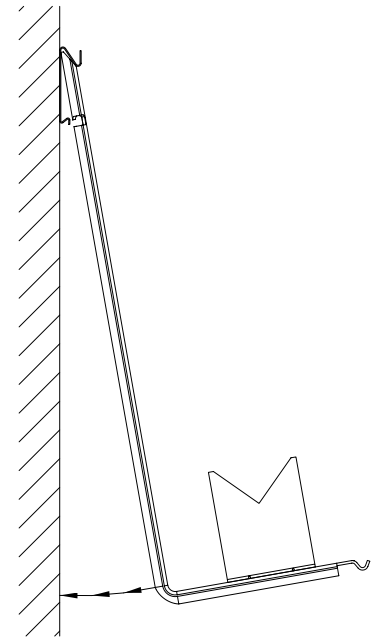

FIGURE W-3
- (3) Slip the snap expansion bracket into the snap mounting channel or full height backplate, and snap into place. (FIGURE W-3)